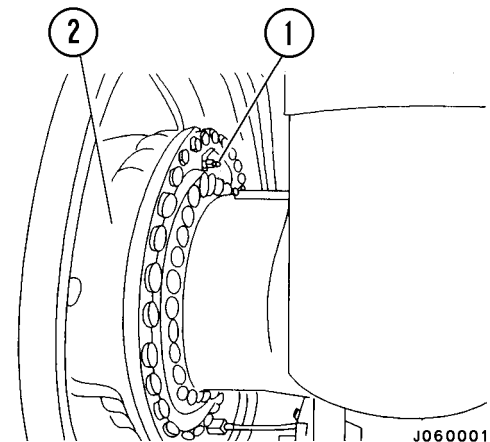

FIGURE 40-14. BRAKE HOUSING BLEED PLUG
2. Continue this procedure until no more bubbles come out from the air bleed plug hole, then bleed the air from the wheel plug (1, Figure 40-14).